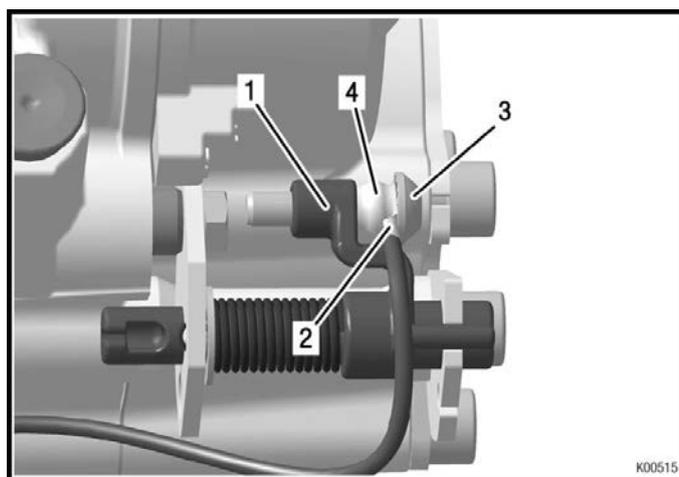

Fig. 20
- ➔ Fasten the cable lug to the shift contact assy. using the Plastite screw M6x25 (pos. 3). Pay attention to correct sequence of components! See Fig. 20.
- ◆ **Note:** Fasten the cable lug (pos. 2) between the fuel tube 8 mm (pos. 4) and the Plastite screw M6x25 (pos. 3).